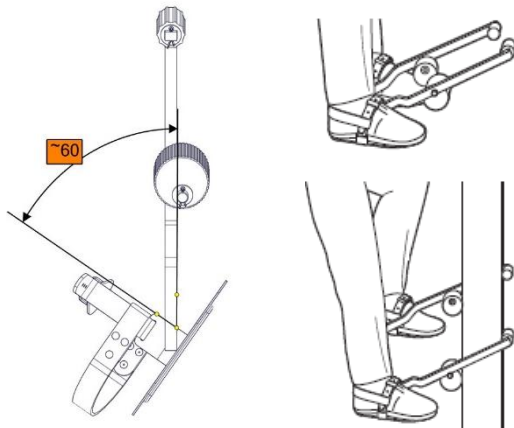

Figure 3. Angle of setting of pole climbers
Pursuant to PN-E-55000 pole climbers are made as grab made from tempered steel (2) terminated with foot (4) inclined at 60° (Figure 3). Adequate inclination angle of parts ensures correct posture of a worker and setting of legs when climbing. Pole climbers have straps attached, which fix worker's feet (5).